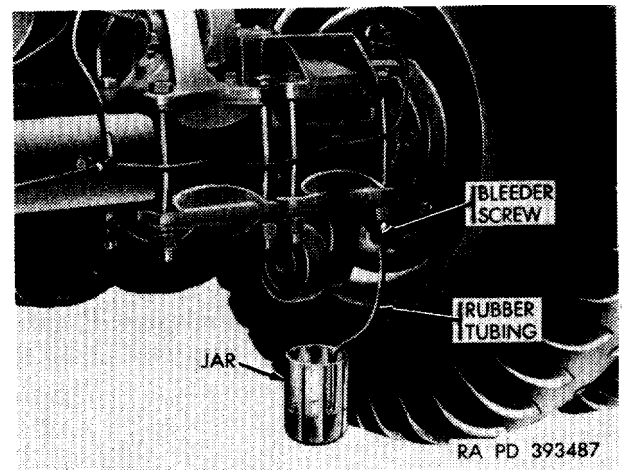

Figure 4-46. Bleeding hydraulic brake system
- (3) Place an end of a length of rubber tubing over the bleeder screw. Submerge the free end of the tube in a bottle or jar partially filled with hydraulic brake fluid (fig. 4-46).